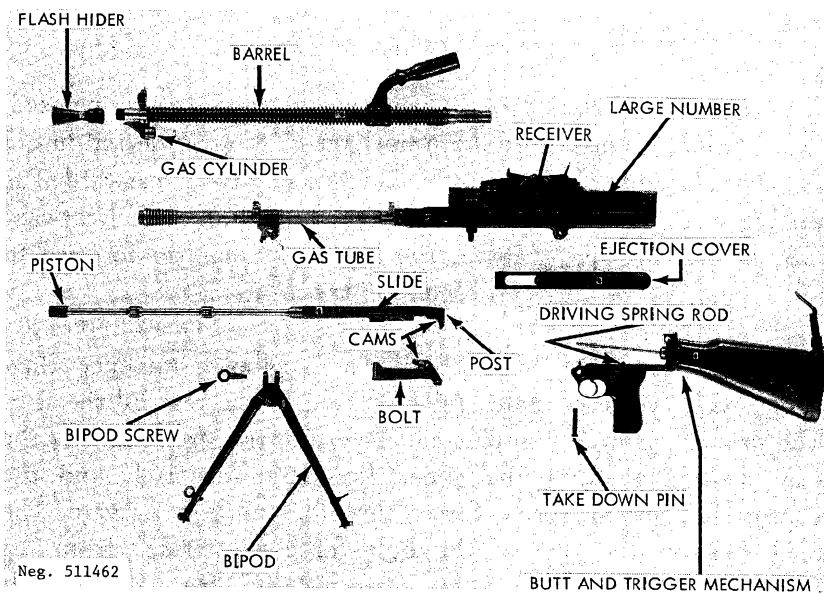

Figure 163. PRC copy of ZB 26, field stripped.
b. Copies of the ZB26 were produced in China prior to and during World War II; many of these guns were taken over by the People's Republic of China (fig 163) and are now used in Southeast Asia.
c. The Czechoslovak-produced guns can be identified by their markings. The word BRNO along with other Czechoslovak identifying marks will be on the left side of the receiver. The legend Lehky Kulomet ZB VZ 30 (or 26) is on the right side. This latter marking may be different on guns made for export sales. The older Chinese-made guns have serial numbers in large figures stamped into the left receiver wall, often preceded by a swastika (fig 163).
c. Holding a hand over the rear end of the receiver, point the front end up. The slide and bolt (fig 163) will slide rearward; remove them. Pull the bolt (fig 163) rearward and up off the slide.
e. To reassemble the gun, place the bolt over the slide post (fig 163) and push the bolt forward on the slide so that the undercuts at the front of the bolt mate with their tracks on the slide. Insert the gas piston into the rear of the receiver, and when the piston is far enough in, align the ribs on the slide and receiver and push the slide into the receiver. Tilt the receiver down until the bolt and slide go forward.
b. The ZB26 and ZB30 machineguns commence their firing cycle with the slide and bolt held to the rear by the sear. The driving spring is compressed. When the trigger is pressed, the sear disengages from the slide (figs 163 and 164) and the compressed driving spring forces the slide and bolt forward. The feed ribs on the top of the bolt force a cartridge from the magazine and drive it into the chamber. The front of the bolt strikes the end of the barrel; the extractor snaps into the groove of the cartridge case; and the bolt stops. The slide continues forward, and a cam on its top side forces the rear end of the bolt upward into its seat in the receiver. The slide then continues forward a short distance and its hammer (fig 164) strikes the firing pin to ignite the cartridge.